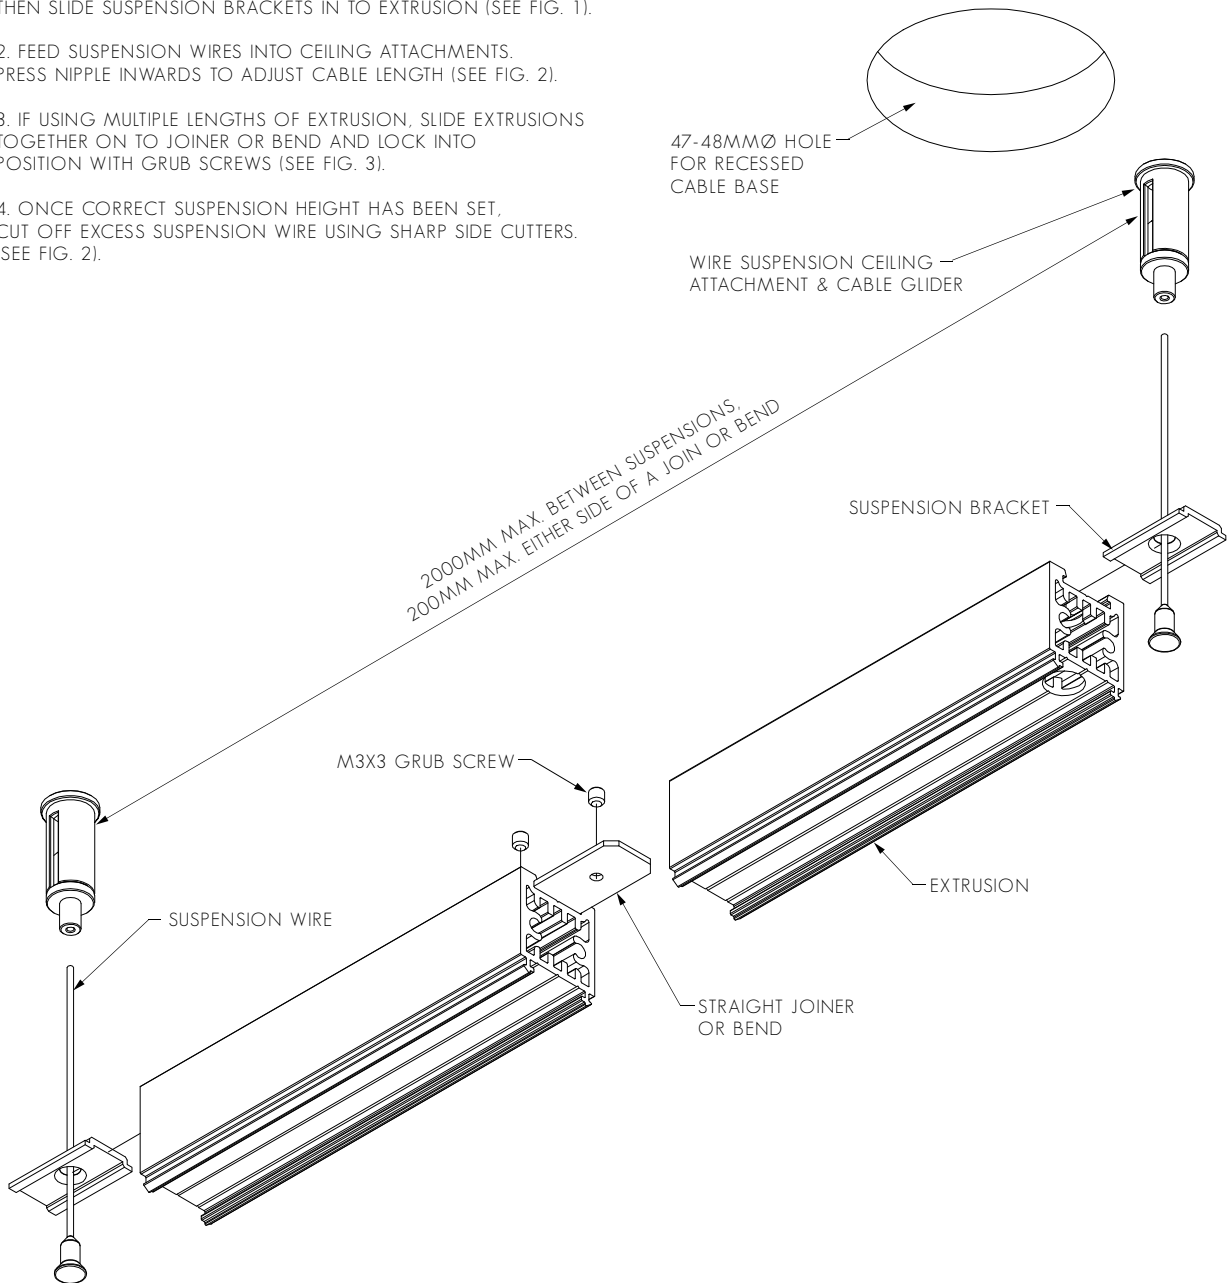

FIG. 1 - ENSURE EXTRUSION IS MOUNTED SECURELY
1. FEED WIRE SUSPENSION WIRES THROUGH SUSPENSION BRACKETS THEN SLIDE SUSPENSION BRACKETS IN TO EXTRUSION (SEE FIG. 1).